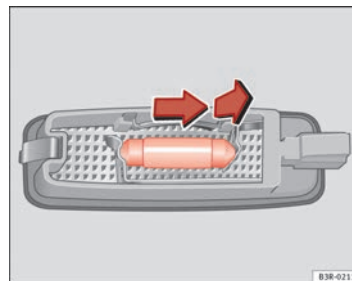

Fig. 243 Removing sun visor light
- Remove the bulb, moving it in the direction of the arrow and outwards ⇒ Fig. 243.